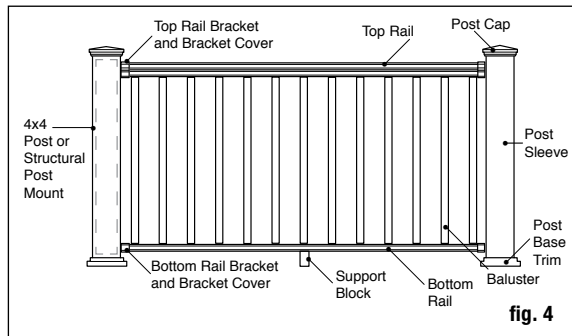

fig. 4
Step 5 Trim 4x4 post sleeves to length. Post sleeves should be a minimum of 1-1/2" longer than the railing height (fig. 4). Example: For a 36" high railing, trim post sleeve to a minimum of 38-1/2", can be left longer if desired. Slide a trimmed post sleeve over each 4x4 railing post or post mount. Post sleeve should slide easily over the post. **DO NOT FORCE** post sleeve onto post. Twisted or crooked 4x4s should be replaced. Slide a post base trim (optional) over each post sleeve for a finished look. *Note: It is recommended to install the post base trim prior to installing the bottom rail. However, the two-piece design does allow the installer to add the post base trim after the rail has been installed. To install, apply a thin line of clear exterior construction adhesive to the inside of the post trim, where it will contact the post sleeve, and snap into place around the base of the post sleeve.*